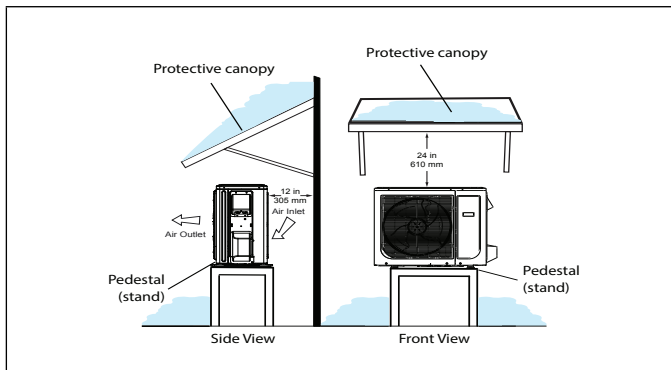
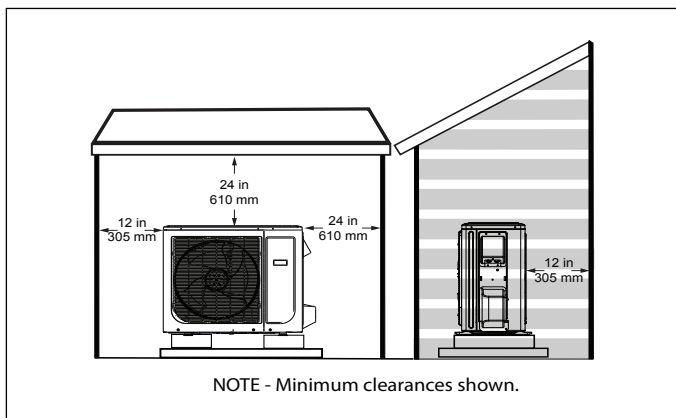

Figure 17. Outdoor Unit on Pedestal and Protective Canopy
Figure 18. Dog House-Style Shelter
- If the outdoor unit is subjected to prolong exposure to direct sunlight with temperatures over 100°F (38°C) a canopy is recommended as illustrated in “Figure 17. Outdoor Unit on Pedestal and Protective Canopy” or “Figure 18. Dog House-Style Shelter”.